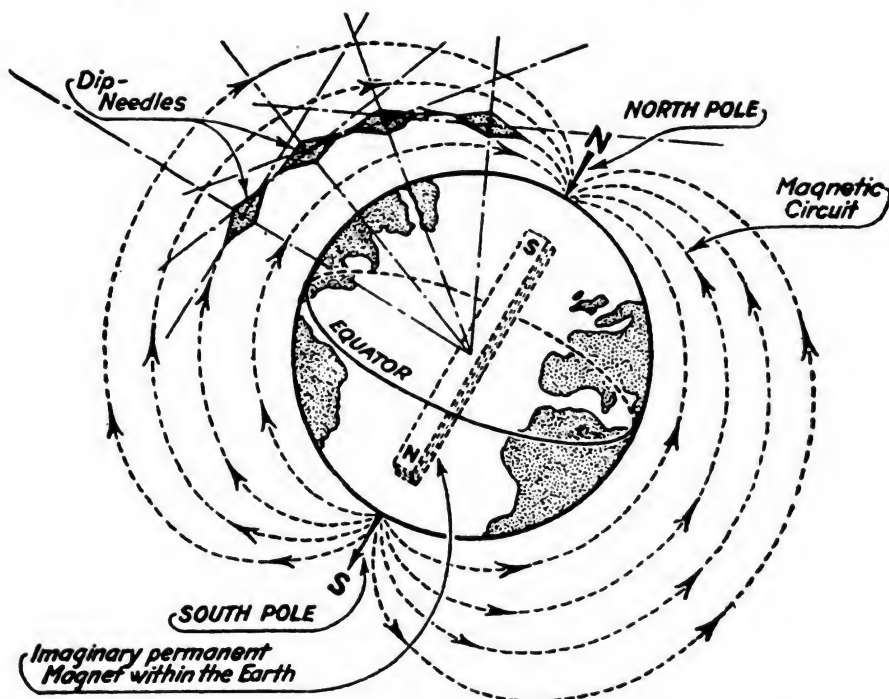

Figure 95.—Magnetic inclination.
A study of figure 95 shows you that, at the magnetic equator, the ends of the compass are equidistant from the magnetic poles of the earth. The attraction of the (N) pole of the compass
Also in figure 95, you can note the approximate position of a dip needle at various other points